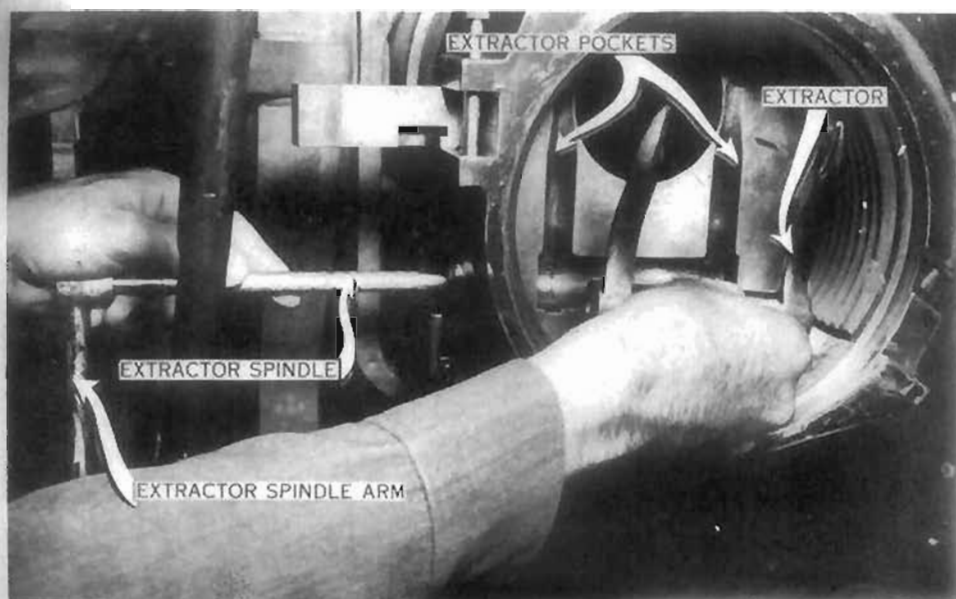

Figure 12
- H. Swing extractor spindle down, pull out to the left and remove spindle and extractor (fig. 12).